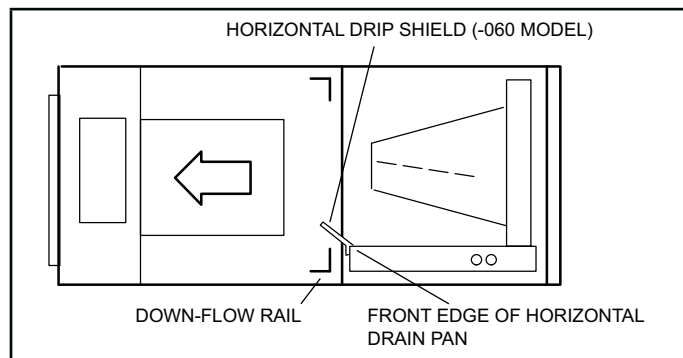

FIGURE 10. Left-Hand Discharge Configuration
- 8 - Install the horizontal shield (-060 model) on the front edge of the horizontal drain pan as illustrated in figure 10.
- 12 - If suspending the unit, it must be supported along the entire length of the cabinet. If using chain or strap, use a piece of angle iron or sheet metal attached to the unit (either above or below) so that the full length of the cabinet is supported. Use securing screws no longer than 1/2" to avoid damage to coil or filter, as illustrated in figure 10. Connect return and supply air plenums as required using sheet metal screws.